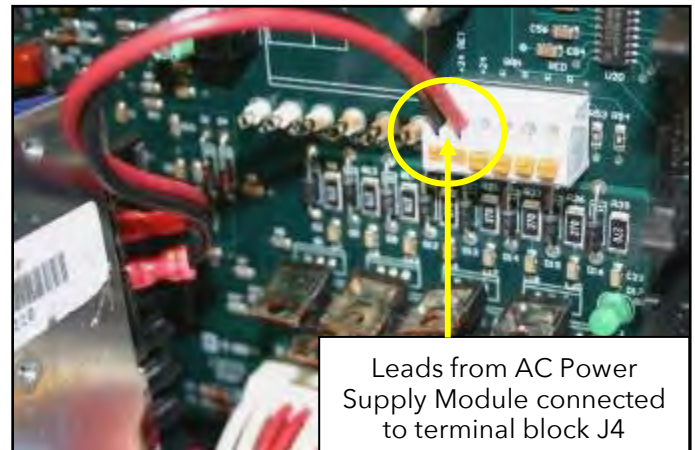

Figure 5. TERMINAL BLOCK J4.
- Disconnect the red and black leads running from the AC power supply module to terminal block J4. Refer to Figure 5. Using a small screwdriver, press in on the orange release tab under the lead then gently remove the lead. Repeat for the other lead.